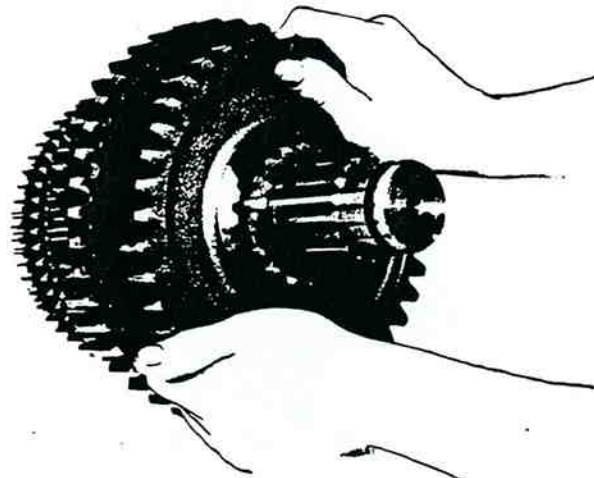

Figure 13-138. Installing 1st Speed Gear.
24. Remove mainshaft assembly from vise. Install reverse gear on mainshaft over retaining ring in rear, clutching teeth toward front, and move it against 1st speed gear, engaging clutching teeth of gear with external splines of spacer (figure 13-138).